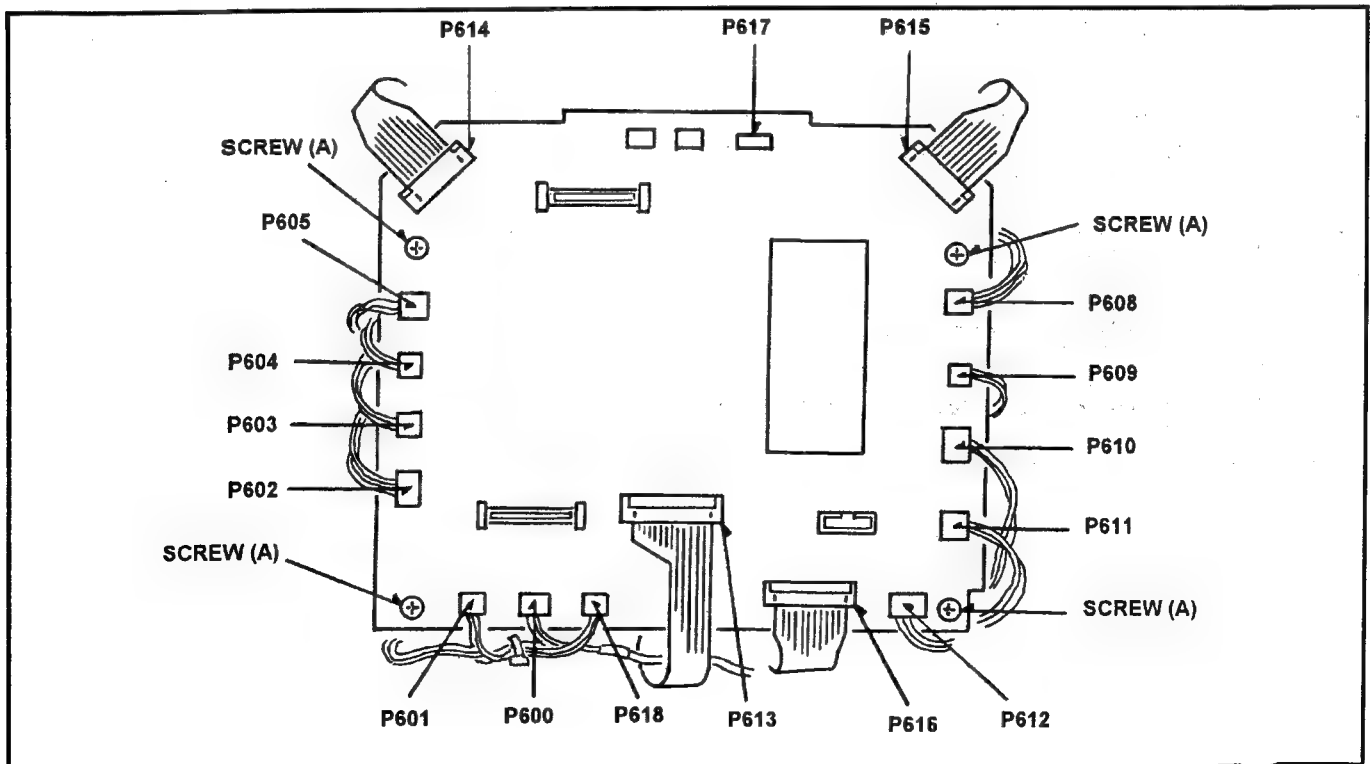
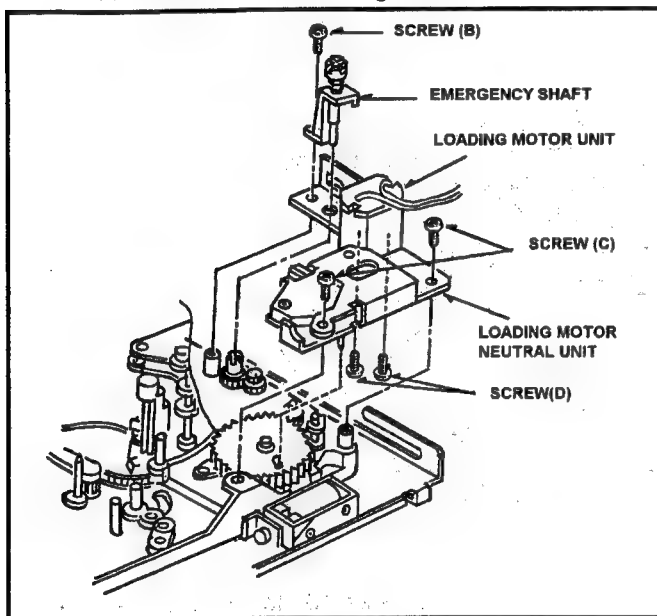
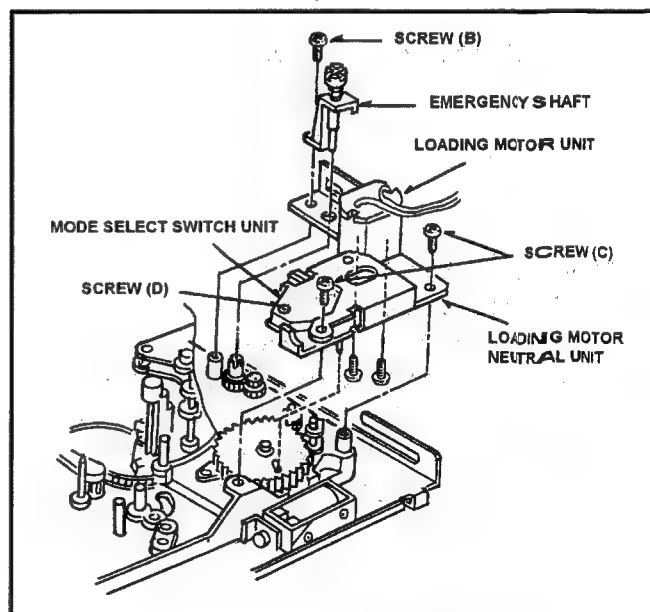

Fig. 8-3-1 Connection of Servo P.C.Board
Fig. 8-4-1 Removal of Loading Motor Unit
Fig. 8-7-1 Removal of Mode Select Switch Unit
3. Disconnect the **connector P611** on **Servo P.C.Board** as shown in Figure 8-3-1.
4. Remove the Pinch Solenoid Unit (Refer to item 8-9).
5. Remove the Pinch Solenoid Lever. (Refer to item 8-5).
6. Unscrew the **screw (B)** to remove the Emergency Shaft as shown in Figure 8-4-1.
7. Unscrew the **2 screws (C)** to remove the Loading Motor Neutral Unit as shown in Figure 8-4-1.
8. Unscrew the **2 screws (D)** to remove the Loading Motor Unit as shown in Figure 8-4-1.
3. Disconnect the **connector P610** on the **Servo P.C.Board** as shown in Figure 8-3-1.
3. Remove the Mech Chassis Unit (Refer to item 7-6).
4. Disconnect the all connectors on Servo P.C.Board. Unscrew the 4 screws (A) to remove the Servo P.C.Board as shown in Figure 8-3-1.
5. Unscrew the screw (A) to remove the Cassette Down Photo Unit.
6. Unscrew the screw (B) to remove the M-Lock/Release Piece Unit.
7. Unscrew the 2 screws (C) to remove the M cassette Brake Base Unit. Then pick up the pin of Eject Arm Unit.
3. Disconnect the connector P612 on the Servo P.C.Board as shown as Figure 8-3-1.
4. Remove the Pinch Solenoid Unit and Loading Motor Neutral Unit (Refer to item 8-4).
5. Remove the screw (D) to remove the Mode Select Switch Unit from Loading Motor Neutral Unit as shown in Figure 8-7-1.